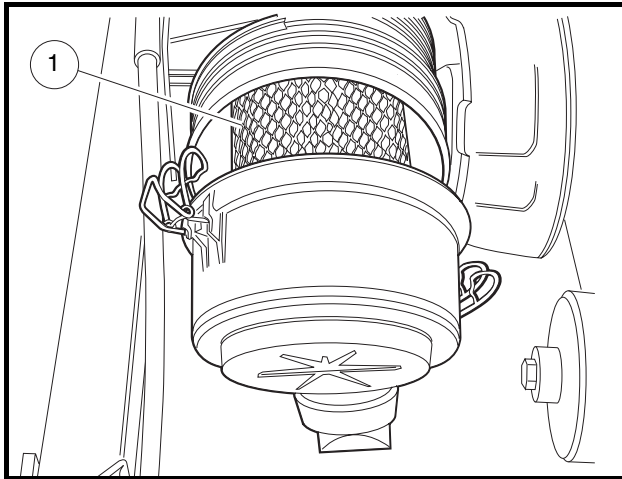

Figure 35 Air Filter Cartridge
2. Release both canister tab locks (**Figure 35**).
4. Remove the air filter cartridge (1). **See following NOTE.**